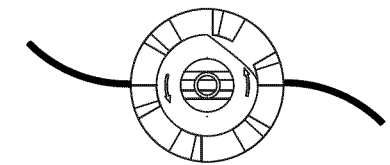

Fig. 16
3. Remove any old line from the inner reel or obstructions from the outer spool. (Fig. 16)